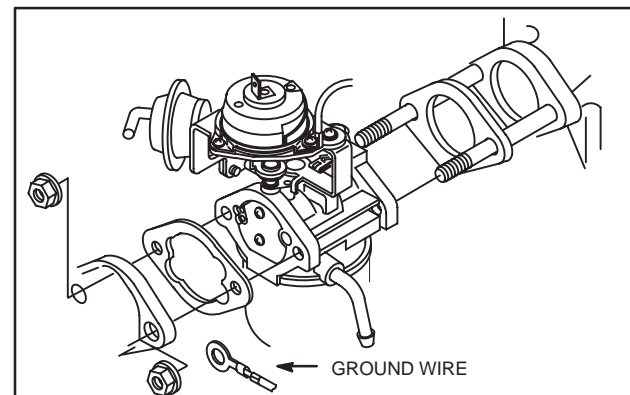

Fig. 54 – Installing Carburetor
1. Assemble insulator with gaskets, carburetor and air horn with gasket to intake manifold, Fig. 54.